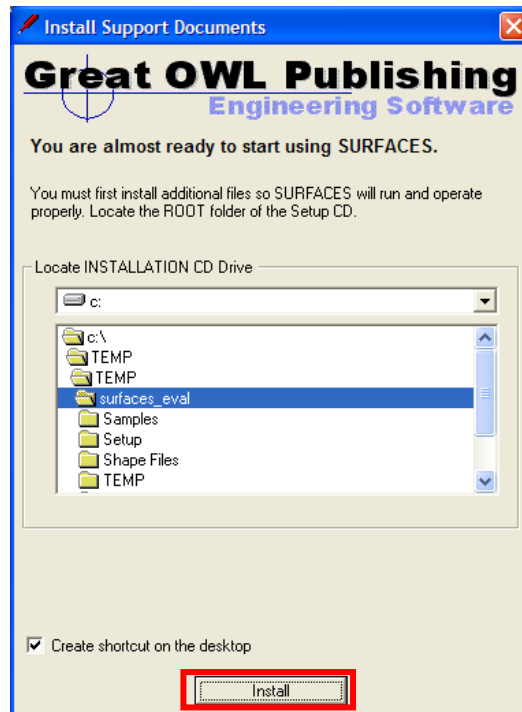

Figure 3-3: Form to install supporting documents.
STEP 3.3 Using the form in Figure 3-3, navigate to where you extracted the installation files in STEP 2. You should see the subfolders (Samples, Setup, Shape Files, etc.) as shown in the figure.